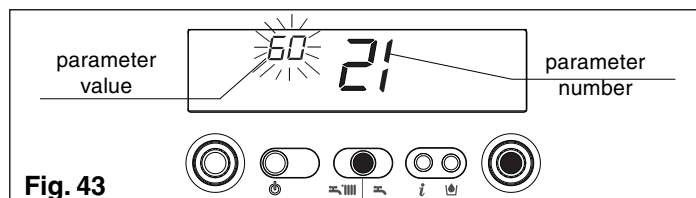

Fig. 43
- press ENTER to access the parameter modification function. When ENTER is pressed, the previously set value starts flashing (fig. 43)